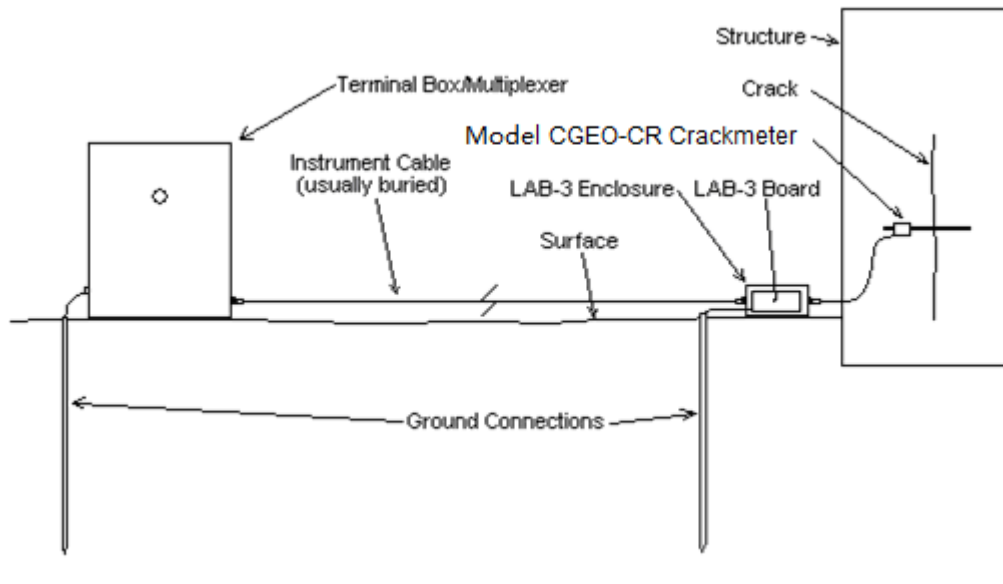

Figure 7 - Lightning Protection Scheme
- Lightning arrestor boards and enclosures are available from CGEO that install near the instrument. The enclosure has a removable top so, in the event the protection board (LAB-3) is damaged, the user may service the components (or replace the board). A connection is made between this enclosure and earth ground to facilitate the passing of transients away from the gage. See Figure 7. Consult the factory for additional information on these or alternate lightning protection schemes.